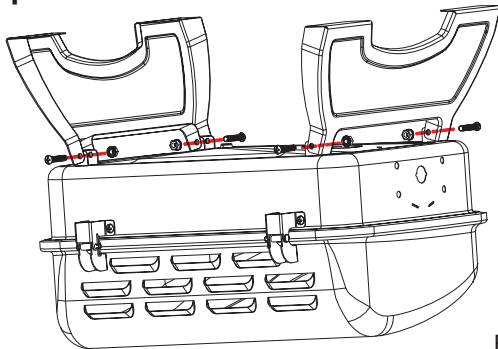

Fig. 1
*Locate:* Grill Lid and Firebox Assembly, (2) Support Legs, (4) M6x35 bolts and (4) M6 nuts
*Procedure:* Attach (2) Support Legs to the Firebox Assembly using (4) M6x35 bolts and (4) M6 nuts as shown in Fig. 1.